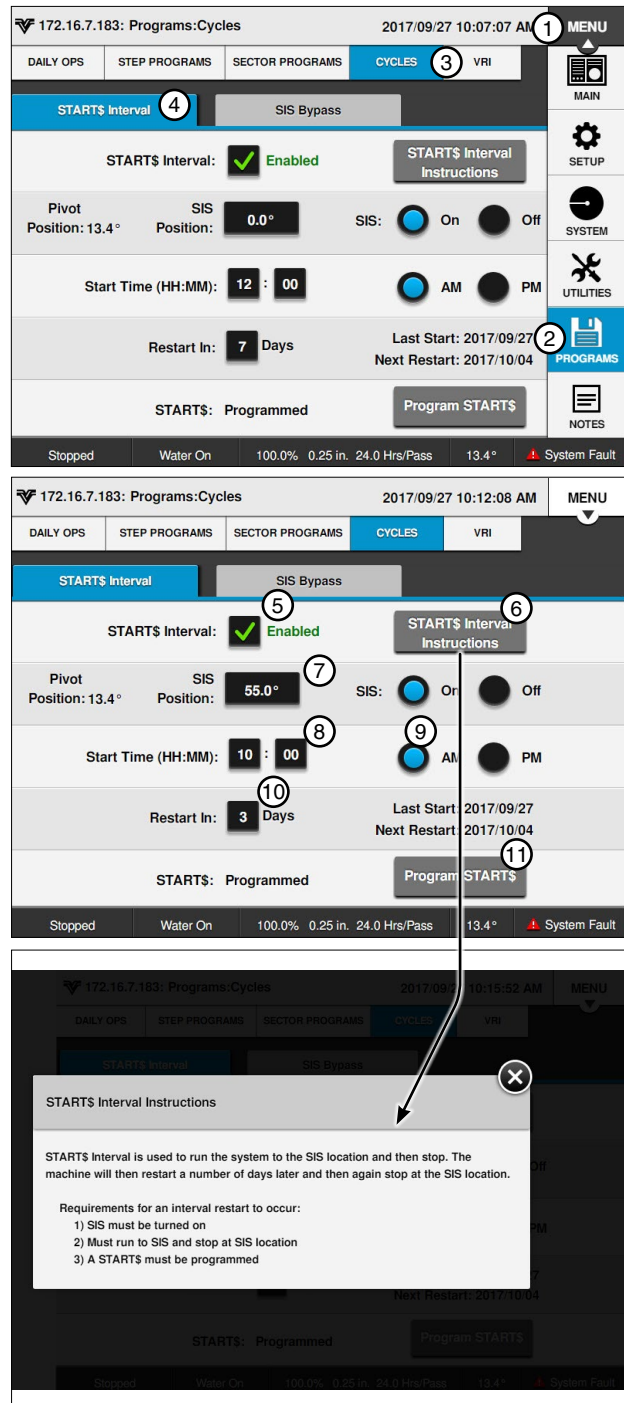

Figure 154-1 1. Menu 7. SIS Position
1. Push **Menu**, **Programs**, **Cycles**, and **START\$ Interval** to view the START\$ Interval screen. Refer to Figure 154-1.